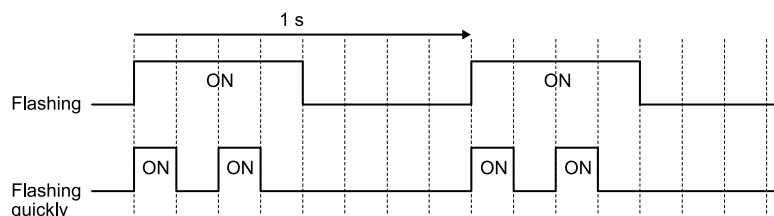

Figure 1.5 LED Flashing Statuses
*1 Refer to Figure 1.5 for the difference between "flashing" and "flashing quickly".